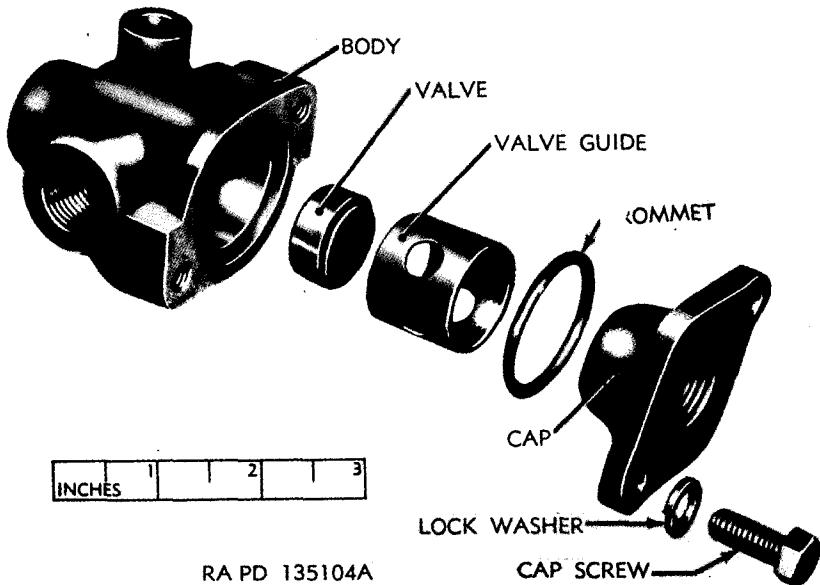

Figure 182. Disk type double check valve—exploded view.
b. *Disk Type* (fig. 182). Remove the two cap screws and lock washers holding the cap in place. Lift off cap and discard grommet. Withdraw valve guide and valve from body.
b. *Disk Type* (fig. 182). Insert valve guide in body and center it over machined boss. Place valve in guide. Use a new grommet and position it in recess and install valve cap. Secure cap with cap screws and lock washers.